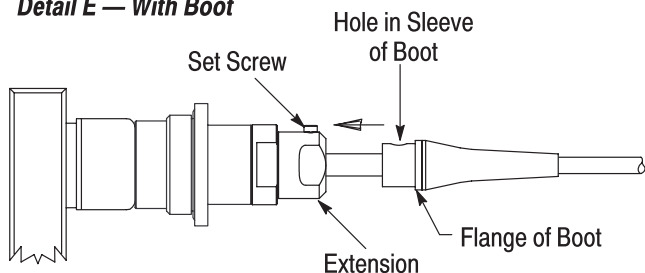

Figure 15
15. Secure the bench-mount assembly fixture to a stable work surface. Fit the end of the housing onto the captive housing of the bench-mount assembly fixture. See Figure 15, Detail A.
16. Apply 2 to 3 drops of threadlocker to the threads of the housing. Then, apply the grease around the O-ring on the outside of the housing. See Figure 15, Detail B.
17. Slide the jam nut (standard connector) or grounding nut (grounding connector) onto the housing, and finger-tighten. See Figure 15, Detail B. Using the 20-mm U-wrench, tighten the nut to a torque between 10 and 12 N-m.
18. Slide the extension onto the end of the housing, and finger-tighten. See Figure 15, Detail C. Using the 16-mm U-wrench, tighten the extension to a torque between 4 and 5 N-m.
If the boot is *not* included with the cable adapter kit, using the 2-mm hex wrench, thread the set screw into the hole in the extension until it bottoms (on the crimp sleeve). See Figure 15, Detail D.
If the boot is included with the cable adapter kit, using the 2-mm hex wrench, thread the set screw into the hole in the extension by approximately two turns. See Figure 15, Detail C. Then align the hole in the sleeve of the boot with the set screw, and slide the boot into the extension (but over the crimp sleeve) until the flange of the boot bottoms on the extension. Thread the set screw into the hole in the sleeve of the boot until it bottoms on the crimp sleeve. See Figure 15, Detail E.